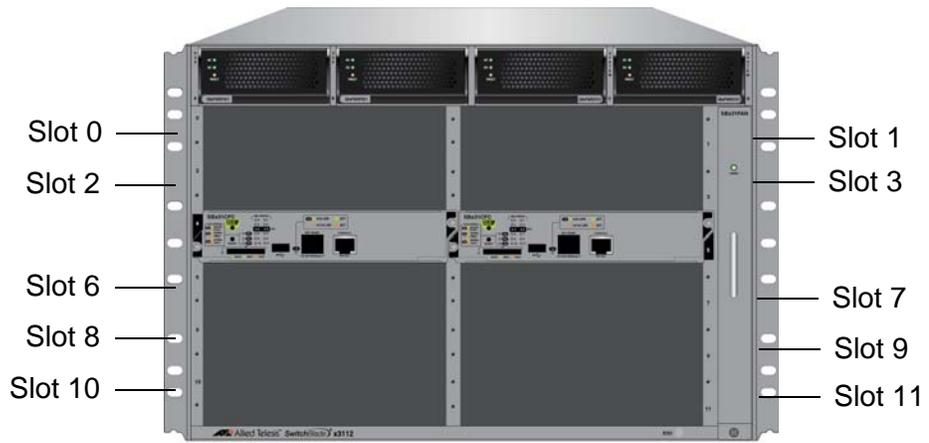

Figure 73. Slots 0 to 3 and 6 to 11 for the Ethernet Line Cards
1. Choose a slot in the chassis for the Ethernet line card. You may install Ethernet line cards in slots 0 to 3 and 6 to 11. The slots are shown in Figure 73.